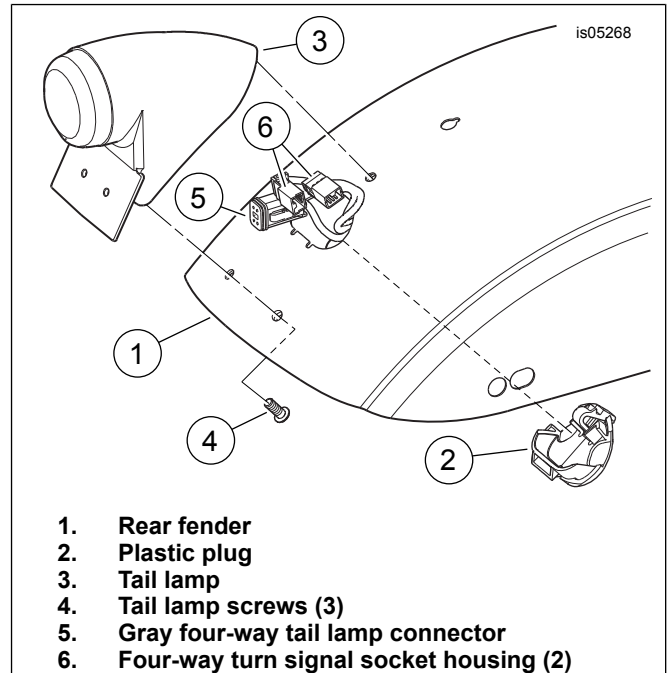

Figure 1. Rear Lighting Connections
4. **For 2009-2012 models:** See Figure 1. Remove the plastic plug (2) from the tail lamp access hole underneath the rear fender (1).